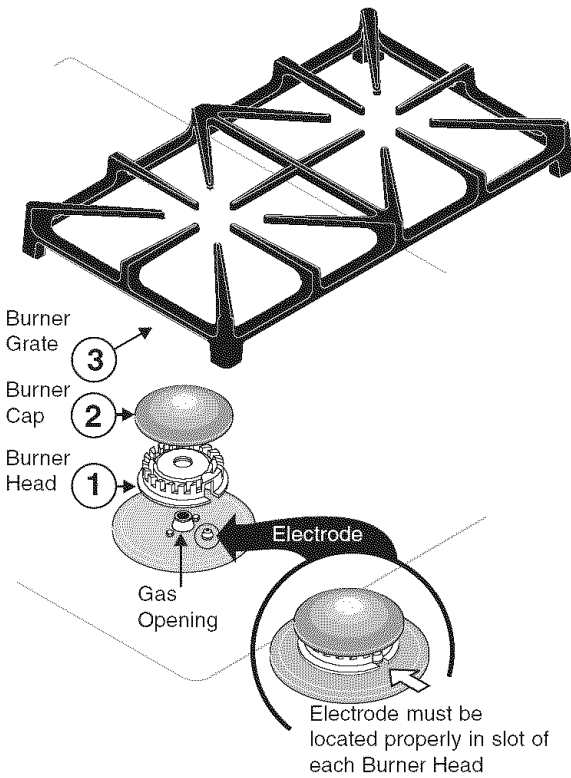

Figure 2
1. Place all Burner Heads in the correct locations (See Figure 1). Make sure that the correct Burner Head is placed with the corresponding Gas opening and that the Electrode is located properly in the slot of each Burner Head (See Figure 2). Proper Burner Head placement insures that each Burner will have the correct spark required for surface gas ignition.
2. Place the correct Burner Caps at each of the burner locations. Each of the 4 (four) Burner Heads **MUST** have a Burner Cap installed to insure proper ignition and gas flame size and must be in place **BEFORE** placing the Burner Grates (See Figure 2).